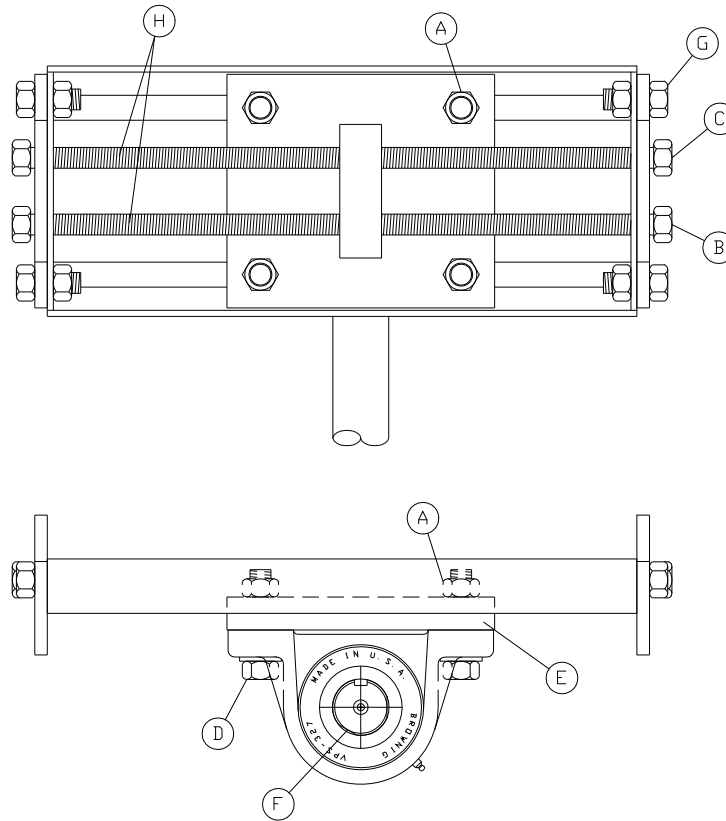

FIG 32
D.) Idler Adjustment (Old Style - Fig 32)